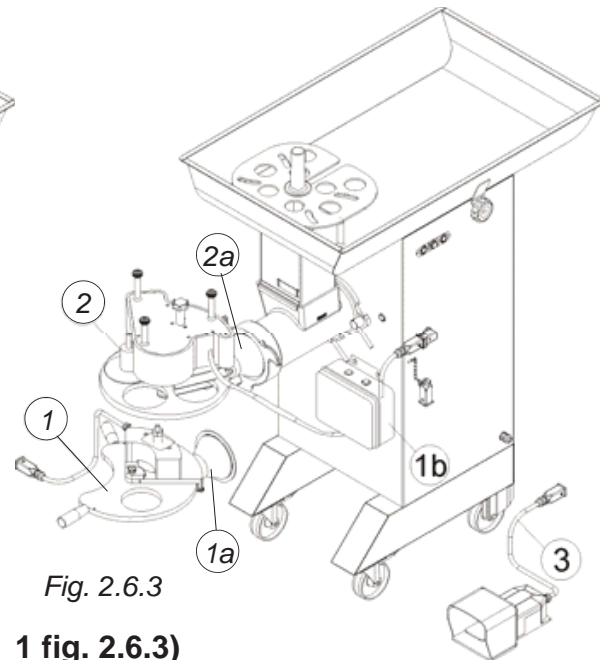

Fig. 2.6.3
2.6.2 Semi-automatic burger machine (1 fig. 2.6.3)
- a part that is firmly fastened on the head by means of the head's ring nut (1a fig. 2.6.3);
2.6.3 Automatic burger machine (2 fig. 2.6.3)
- a part that is firmly fastened on the head by means of the head's ring nut (2a fig. 2.6.3);
2.6.4 Pedal control (3 fig. 2.6.3)